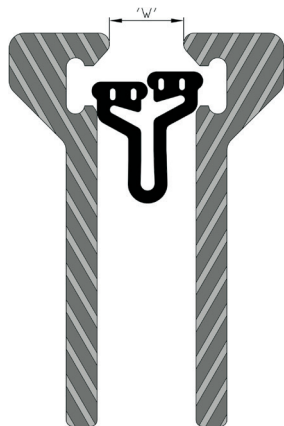

Figure 1
3. Collapse the strip seal into the joint opening until the bottom lug is aligned with the frame rail channel. (**See Figure 1**) the minimum opening (**Width**) for ease in installation is 1 1/2”.